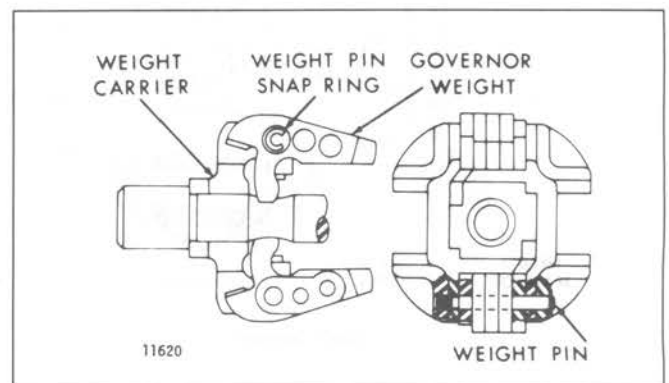

Fig. 9 - Cross Section of Governor Weight Assembly (Non-Turbocharged Engines)
5. Refer to Fig. 9 and remove the governor weights from the carrier and shaft assembly as follows: